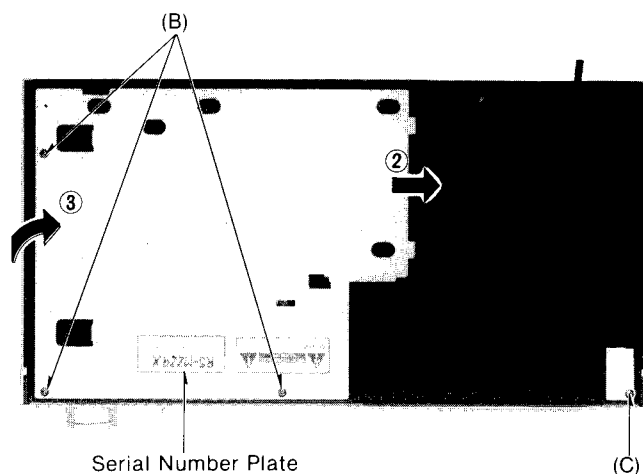

Fig. 2
- The serial number plate of this product is attached to the bottom cover. (Shown in fig. 2.)
<p>Fig. 2</p>